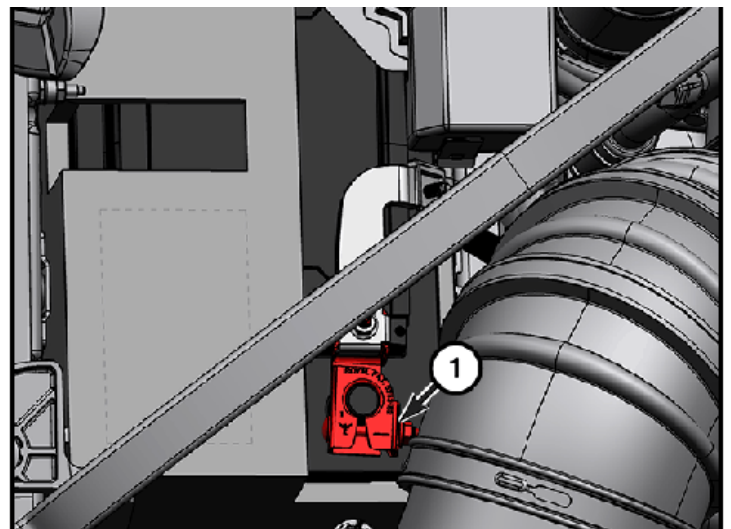

Figure 2
3. If applicable, disconnect the negative terminal from the auxiliary battery. (Figure 2)